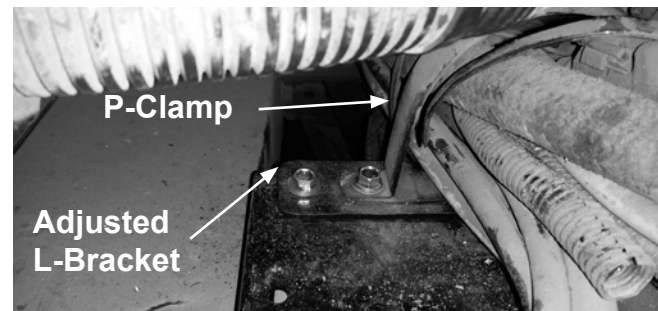

Figure 8, Air Line P-Clamp Reconnect
18. Reconnect air line P-clamp (see Figure 8).